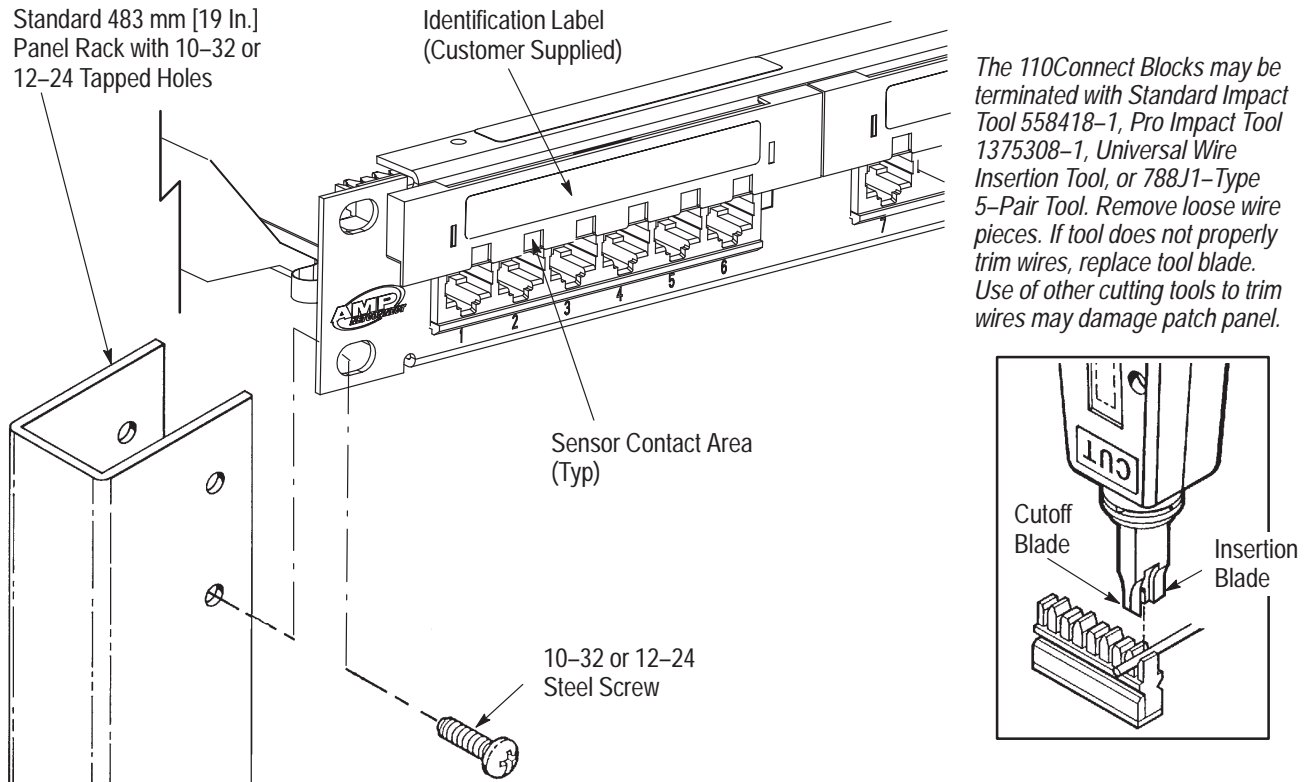

Figure 1
This instruction sheet covers the installation procedures for AMPTRAC, Cat 5e, Modular, Universal Wiring, Patch Panels 1435361–1 and 1435362–1. The panels can be mounted on any standard 483 mm [19 in.] equipment rack or communication cabinet as shown in Figure 1.
Each panel includes the necessary mounting hardware, universal T568A/T568B wiring labels, and cable management cable ties. See Figures 1 and 2.
- Added Pro-Impact Tool reference to Figure 1